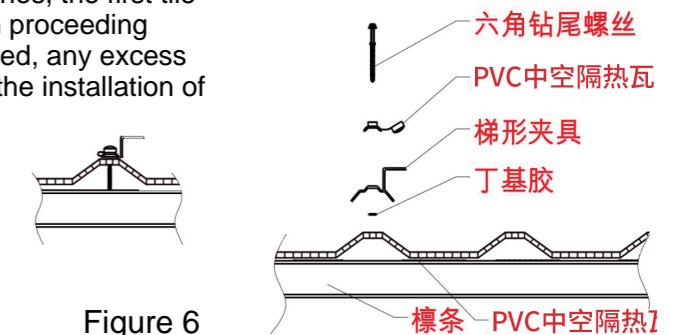

Figure 6
- If solar photovoltaic panels are to be installed, a trapezoidal clamp can be added (as shown in Figure 6).